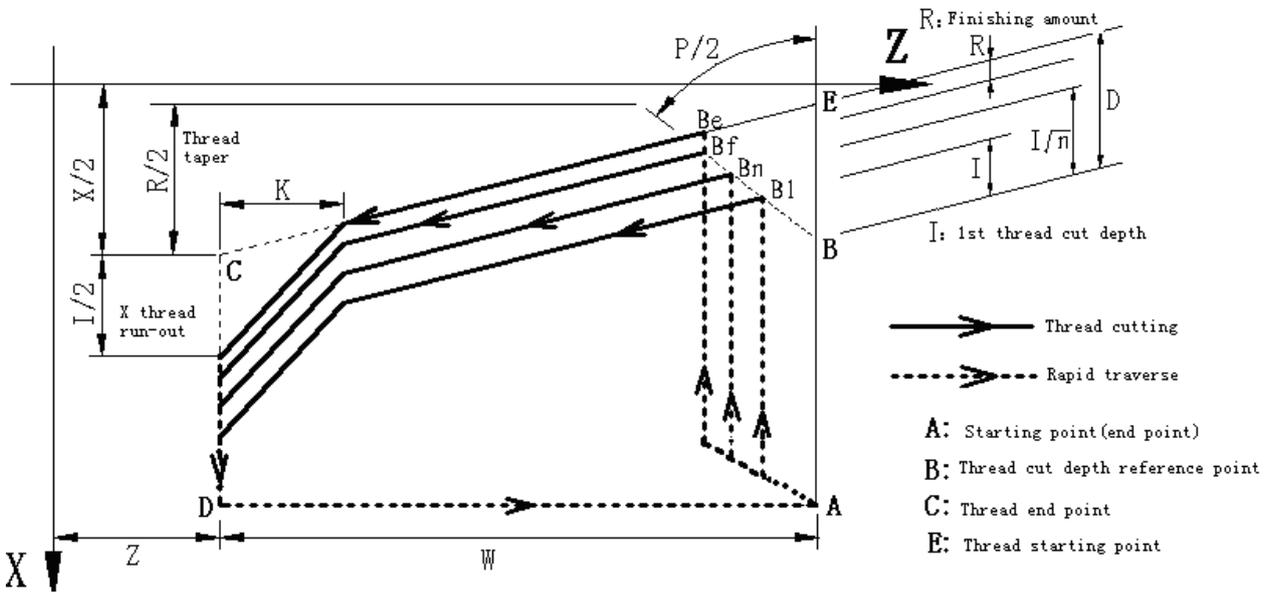

Fig. 4-47
Field definitions, data range are the same those of G92 as Fig. 4-47:
Relative definitions: (as Fig. 4-47)
- Using G76 thread cycle cutting command group can complete the specified tooth height (total cut depth) of the thread cutting by multi thread roughing and finishing; when the thread angle defined by the command ① is not 0° , the cut-in point of thread roughing moves to the thread tooth bottom from the thread tool top and the angle between neighboring two teeth is the defined thread angle.
- When the thread angle defined by G76 ① is not 0, X, Z move simultaneously, the thread axis reaches the cut-in point, and then the single-axis for non-thread axis moves to the cut-in point in G76 ② thread cycle from the starting point to the cut-in point; other cut path is the same that of G92 as Fig. 4-47.